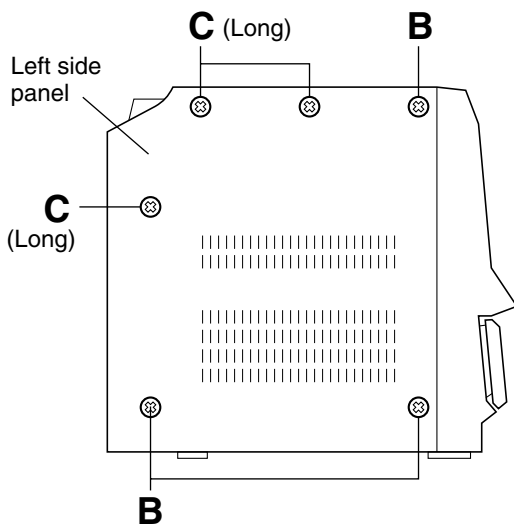

Fig.5
- Remove the left side panel according to its disassembly method (see **Figs. 5 and 6**).
(See Figs. 5 and 6.)